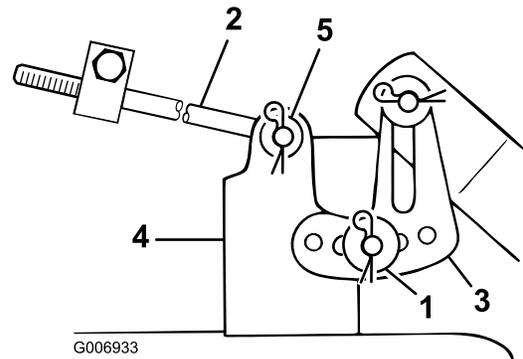

Figure 56
11. Slide the end of the long rod through the hole in the cutter deck mount (Figure 56).
12. Install the thin washer and hairpin cotter to secure the rod in place (Figure 56).
13. Mount the slotted cutter deck leveling bracket onto the pin on the cutter deck mount (Figure 56).
14. Install the thick washer and hairpin cotter to secure the cutter deck (Figure 56).